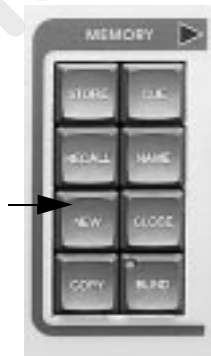
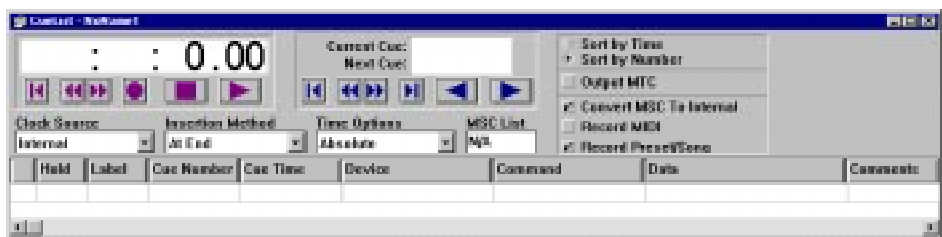

Figure 8.2. MEMORY Group
Figure 8.3. New CueList Window
2. Press <NEW> in the MEMORY group (Figure 8.2) to open a new CueList (Figure 8.3). Alternately, select **New** from the **Memory** drop-down menu.